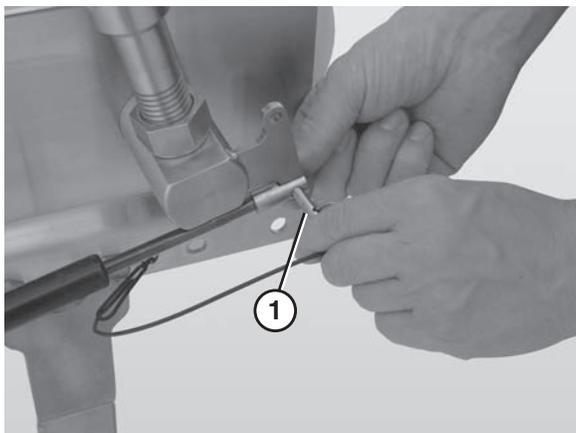

Figure 86
- Remove the pull pin (**Figure 86, item 1**).